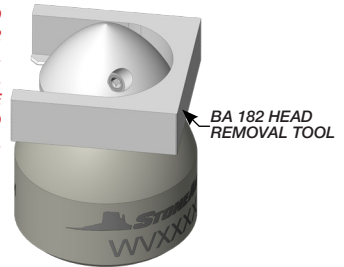

Figure 6: For Step 5
5. Slide the tool between the head and the body as shown in Figure 6.